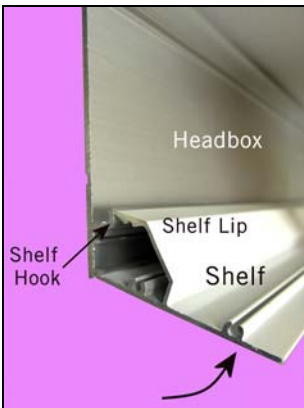

Figure 17 Shelf onto Headbox
- Place the lower front edge of the shelf into the lip of the headbox and align the shelf so it is flush with the end of the headbox at the idler end (Figure 17).